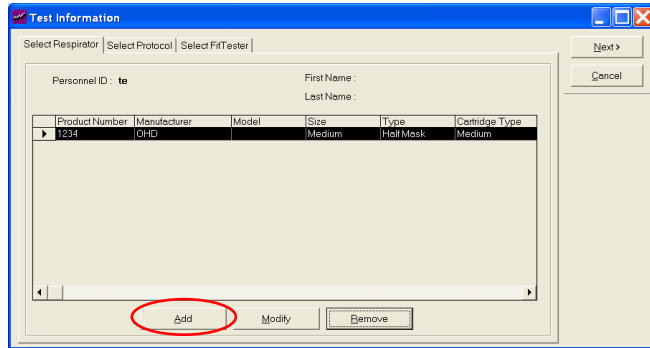

Fig. 5 – Adding a Respirator
18. Click “Add” on bottom left of window (Fig. 5)